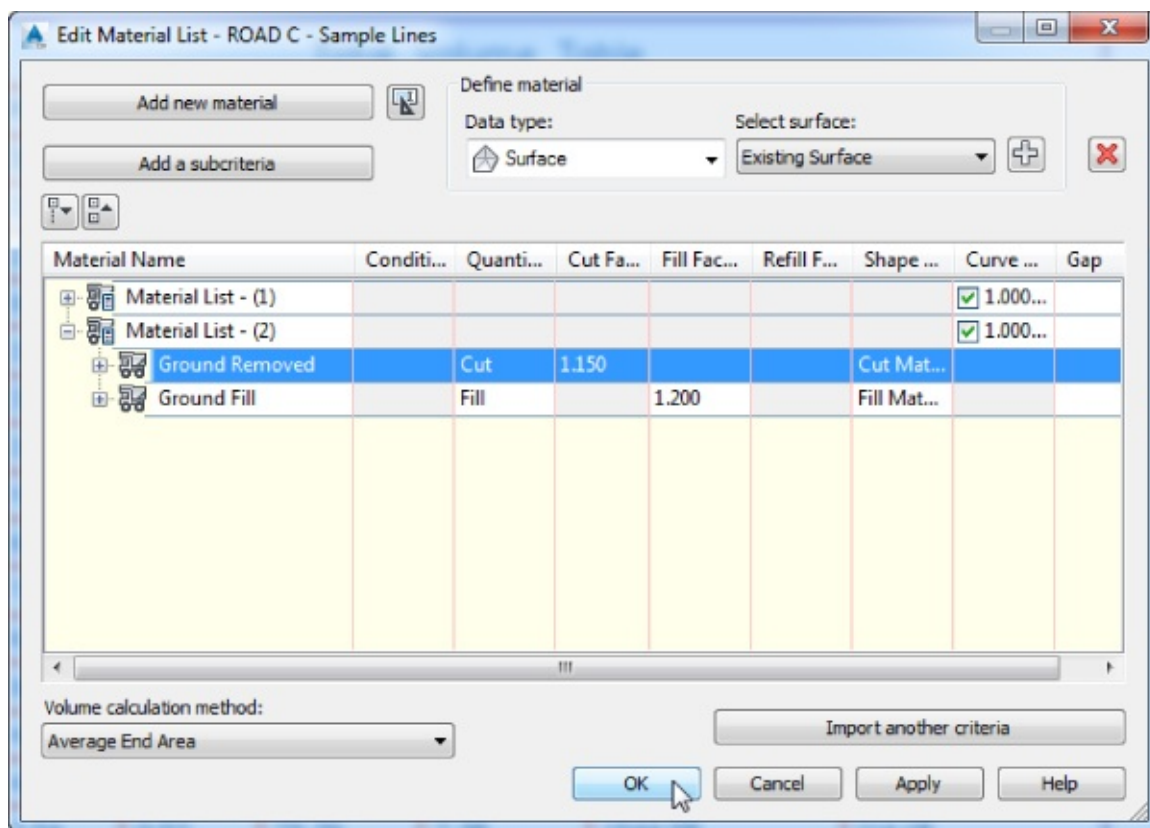

Figure 12.20 The Edit Material List dialog
8. In the Edit Material List dialog for the alignment you will now have two Material Lists, as shown in Figure 12.20. Expand Material List - (2), as shown in the figure.
10. Verify that all other settings are the same as in Figure 12.20, and click OK.
13. Set the Select Material List drop-down to Material List - (2), uncheck the Split Table check box if selected, and leaving all the other settings at their defaults, click OK.